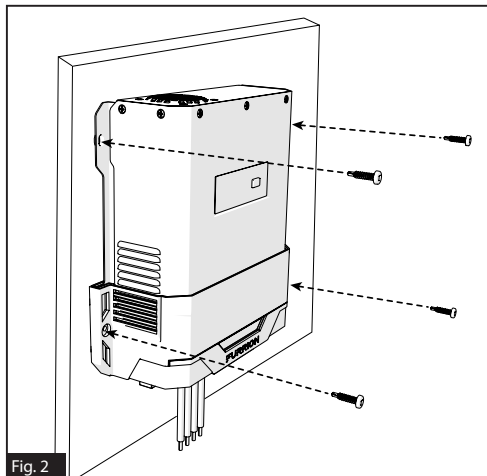

Fig. 2
2. FIXEZ LE RÉGULATEUR MPPT AU MUR À L'AIDE DE 4 VIS DE MONTAGE (POSSIBILITÉ D'UTILISER LES VIS VR STANDARD) (NON FOURNIES). (Figure 2)